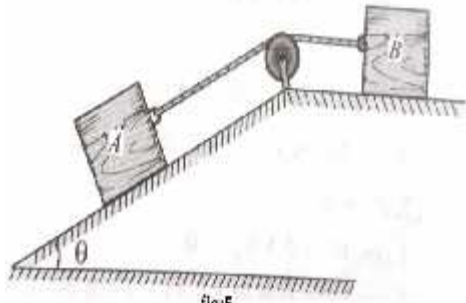

fig:5
5. Find the value of θ , if the block A and B shown in fig:5 have impending motion. Given block A = 20Kg, block B = 20 Kg and $\mu = 0.25$ for all contact surfaces.